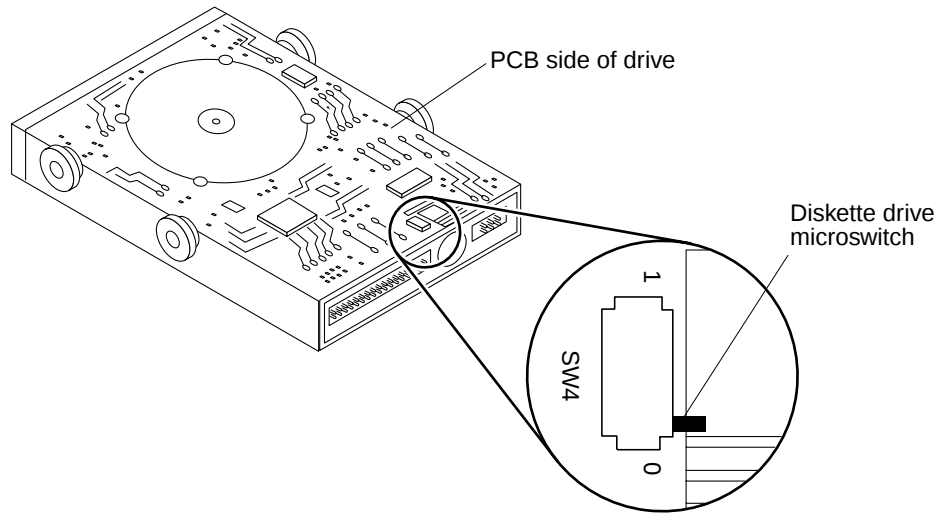

FIGURE 9-16 Setting the Diskette Drive Microswitch
- a. **If the diskette drive has a switch on the side of the drive, set the diskette drive switch all the way to the rear (FIGURE 9-16).**
- b. **If the diskette drive does not have a switch on the side of the drive, it has a microswitch (SW4) on the printed circuit board (PCB) side of the drive. Set SW4 to the 0 position by pressing it towards the rear of the diskette drive (FIGURE 9-16).**